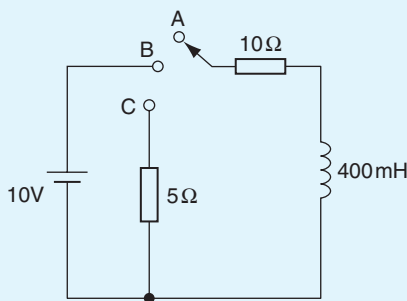

Figure 18.15
6. In the inductive circuit shown in Fig. 18.15, the switch is moved from position A to position B until maximum current is flowing. Calculate (a) the time taken for the voltage across the resistance to reach  $8\ \text{volts}$ , (b) the time taken for maximum current to flow in the circuit, (c) the energy stored in the inductor when maximum current is flowing, and (d) the time for current to drop to  $750\ \text{mA}$  after switching to position C.